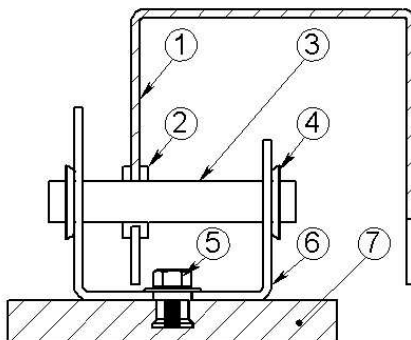

Figure 3A.
- If HPL or FIBER CEMENT panels are proposed – ECO CERTUS HPL solution is used (Figure 3A). The solution essence is undercut anchor technology. In the manufacturing process stainless steel anchors are installed in the back side of the HPL or FIBER CEMENT panels which subsequently are attached to the SMART FLEX support frame. The anchor design configuration and geometrical layout is determined by strength calculation, which can perform our Engineering Department.